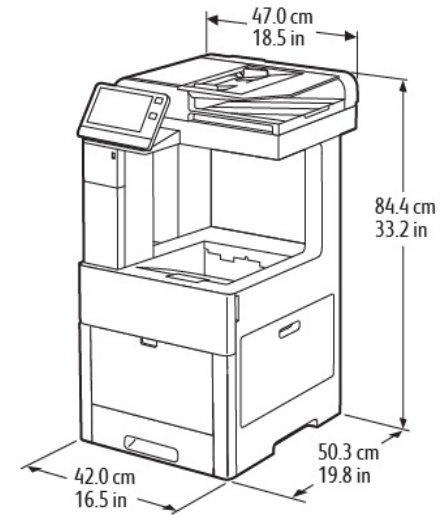

Figure 3 C605_Tall
- C605_Tall: Figure 3 and Table 7